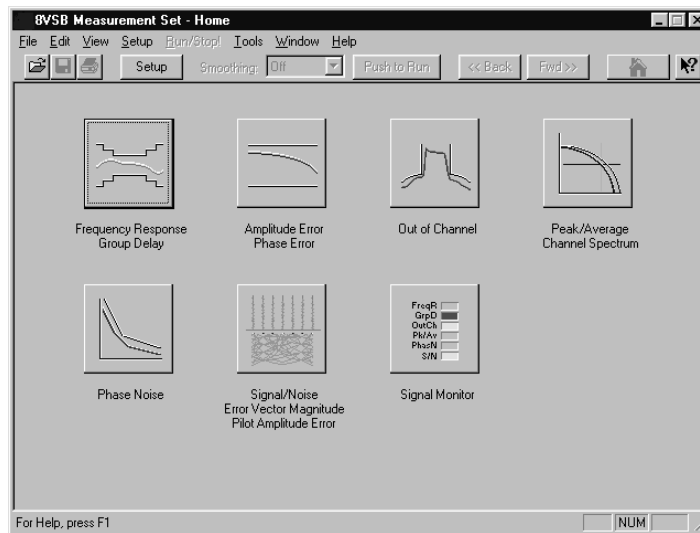

Figure 2–6: Home Window
The Home Window is the point-of-entry into the RFA300 measurement set. From the Home Window, you can access all measurements by clicking on the appropriate icon. A measurement begins to run immediately as soon as the window opens. Figure 2–6 shows the Home Window. Refer to the *Reference* chapter in the *RFA300 Measurement Set 8VSB User Manual* for an overview of each measurement window.
**Toolbar** All toolbar selections are available from any measurement window and the Signal Monitor window. The toolbar provides an easy method for accessing frequently used functions. Figure 2–7 shows the toolbar followed by a list of the functions.